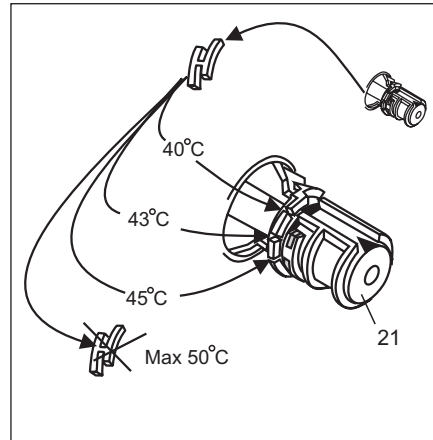

**Figure 12**
Remove the temperature handle carrier (21). To do this slide the black serrated lever (21a) in a clockwise direction with a screwdriver. Hold it there and pull off the handle carrier (21). Figure 12
Remove handles and wall plate or covers. Slide out the red "U" piece (21b Figure 12) and disconnect the handle carrier to expose the temperature control mechanism. Turn on the shower, position a thermometer in the running water and when the temperature settles, rotate the temperature control mechanism until 40 °C is achieved. Replace the handle carrier (21) ensuring the arrow is at 12 o'clock and refit the red "U" piece. Replace the covers and handles.